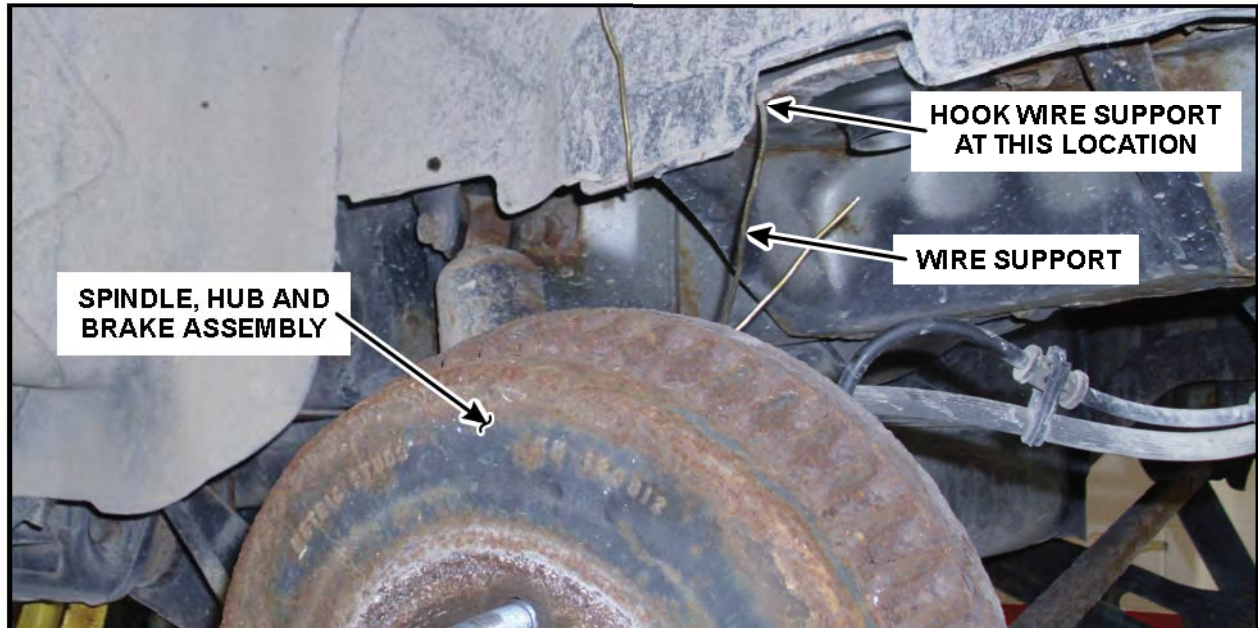

FIGURE 5
Position the spindle, hub and brake assemblies aside. See Figure 5.
14. Position the spindle, hub and brake assemblies in place. See Figure 5.